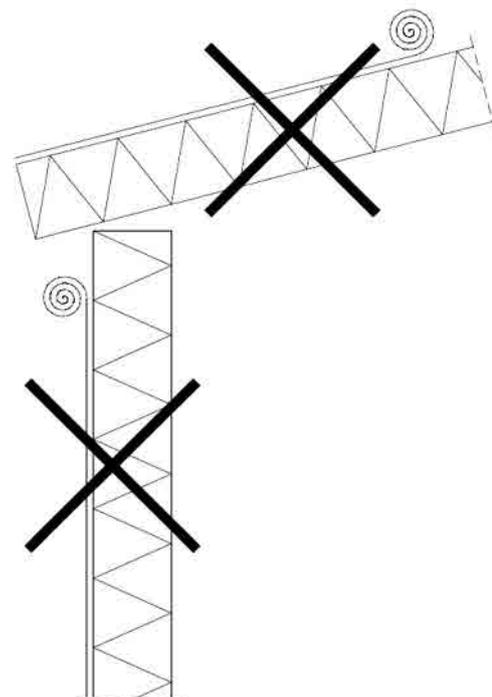

Fig. 9. Ban of leaving a film risen
- No peeled film can be left on the panel after the assembly. The film, when left, might lead to varnish staining due to penetration of water – see fig. 9.